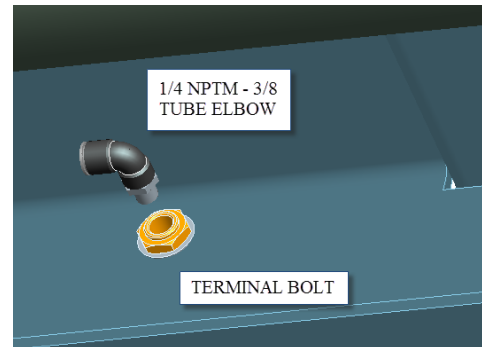

Figure 42
- Install 1/4" NPTM to 3/8" tube push-in elbow on the inside of the deck, into the terminal bolt, as shown in **Fig.42**.